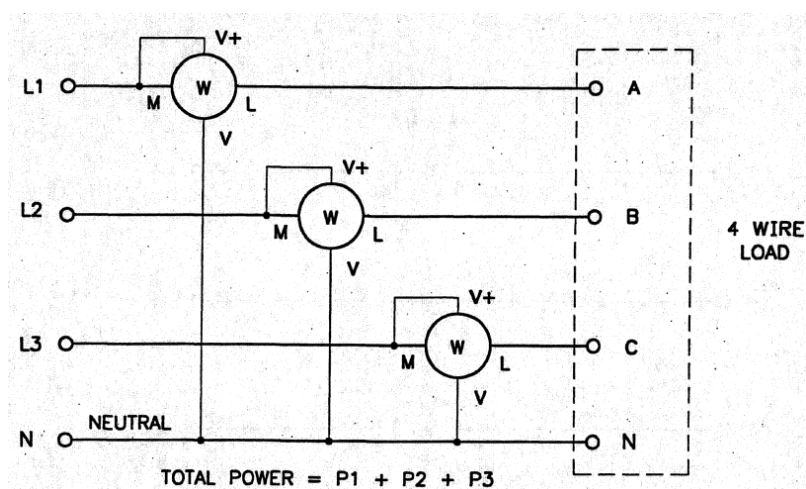

Figure 5 - Two wattmeter method – three wire
- 15 **Three Wattmeter Method** This method can be used for three and four wire balanced or unbalanced loads. Three wattmeters are connected as shown in Figure 5. The total power is the sum of the three wattmeter readings.